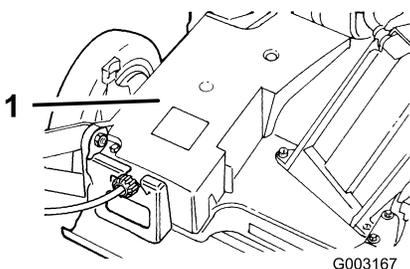

Figure 38
2. Remove the bolts that secure the belt cover (Figure 38) to the lawn mower housing.